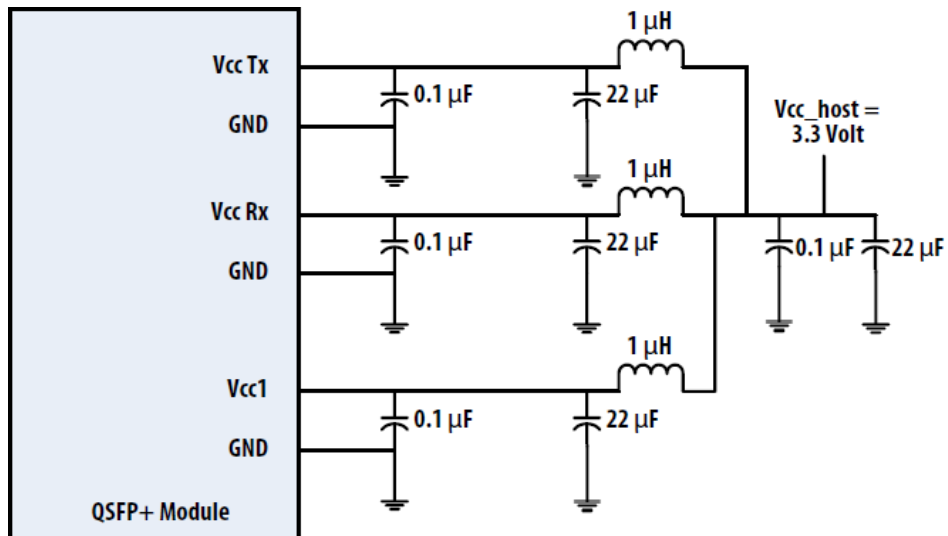

Figure 3. Recommended Power Supply Filter
2. **VccRx, Vcc1 and VccTx are the receiving and transmission power suppliers and shall be applied concurrently. Recommended host board power supply filtering is shown in Figure 3 below. Vcc Rx, Vcc1 and Vcc Tx may be internally connected within the QSFP+ transceiver module in any combination. The connector pins are each rated for a maximum current of 500mA.**